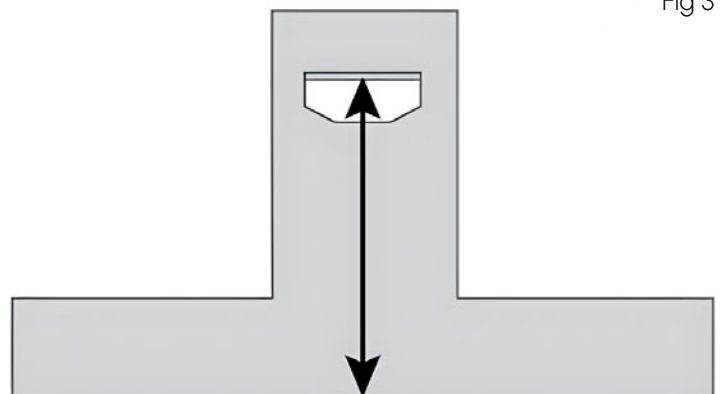

Fig 3
- Particular care is due to the grease filters. They can be removed by pushing its handle toward the back side of the rangehood and pulling the filter downwards so to unfasten it from its slot (Fig.3). To insert the filter just perform the opposite operation.